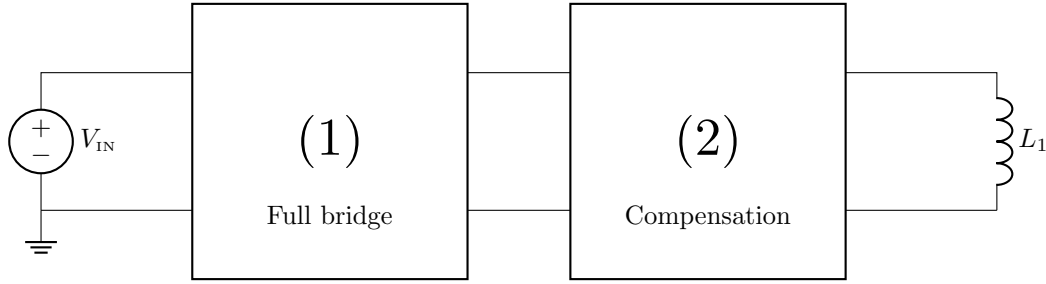

Figure 2: System diagram for the primary side
Figure 2 outlines the hardware of our primary side. A DC voltage $30\text{V} \leq V_{\text{IN}} \leq 45\text{V}^2$ is used as the input. As we must have AC for IPT to work³, a **full-bridge inverter** (1) transforms the DC voltage to a high-frequency AC voltage. An **LCL** compensation network (2) with partial series compensation follows it. L_1 is the primary coil.